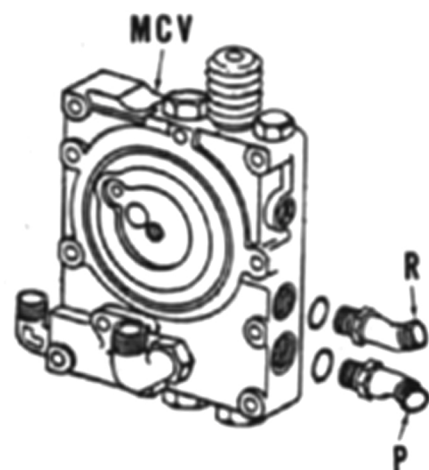

Fig. 171—View showing pressure and return ports from MCV to the hydraulic lift.
132. **RELIEF VALVE.** To check the hydraulic lift system relief valve, disconnect the pressure line (P—Fig. 171) and return line (R). Attach the Flo-Rater inlet hose to (P) and the outlet hose to (R). Start and run the engine at 2300 rpm on Model 684 or 2400 rpm on Models 784, 884 and Hydro 84. Restrict the Flo-Rater to 1250 psi and the pump should deliver 12.5 gpm on Model 684 or 13 gpm on Models 784, 884 and Hydro 84. Continue to restrict the Flo-Rater to 1500-1600 psi. Flow should drop approximately 2½ gpm at this point. Then, restrict the Flo-Rater to 2300 to 2500 psi. There should be no flow at this pressure. If pressure is not as stated, renew relief valve which is available only as a unit.